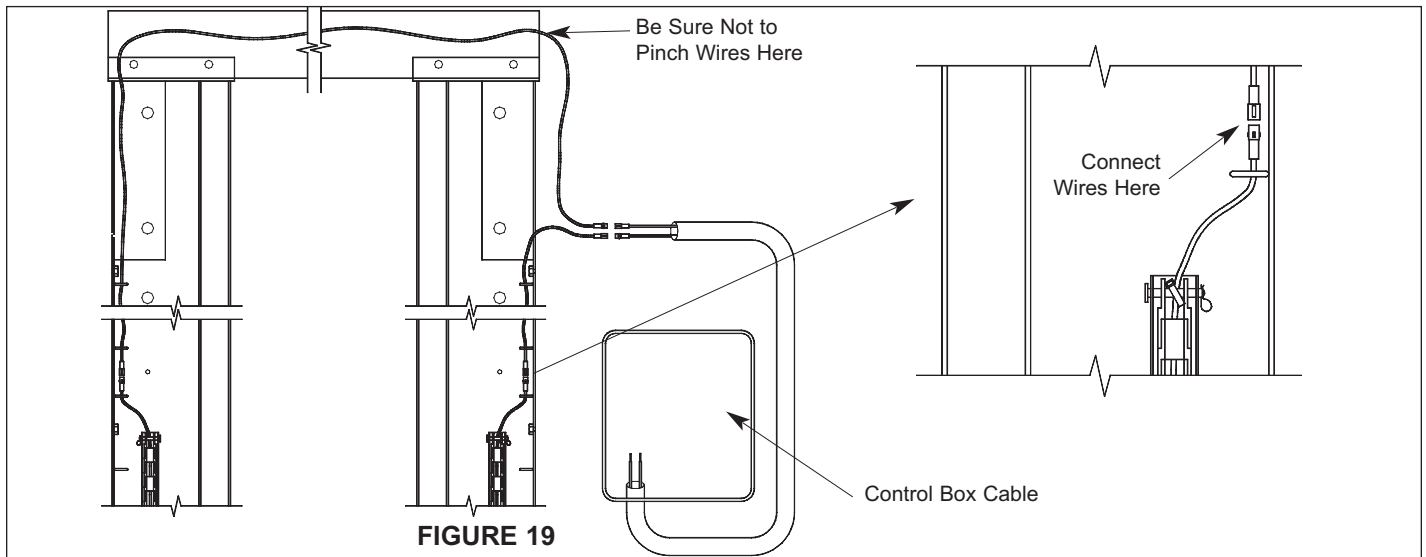

FIGURE 19
1. Make sure to route the wire from the non-drive sideframe thru the conduit of the header channel before putting on the front cover, Figure 19.